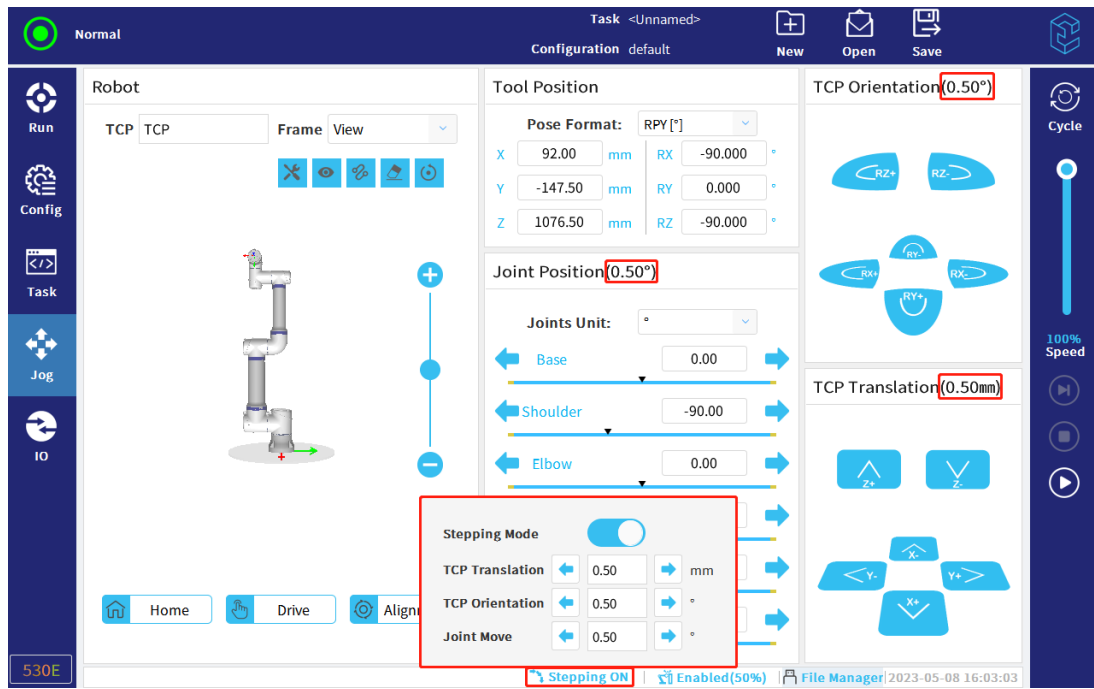

Figure 3-135 : Stepping mode
- Click the "Stepping" icon in the bottom of the menu to switch on or off the stepping mode, as shown in **Figure 3-135**.